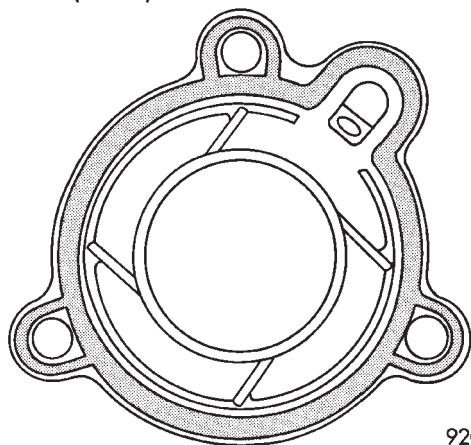

Fig. 25 Intermediate Shaft Retainer Sealing
- (1) Lubricate distributor drive gear when installing.
- (2) Apply Mopar Gasket Maker as shown in (Fig. 25) and install intermediate shaft retainer.